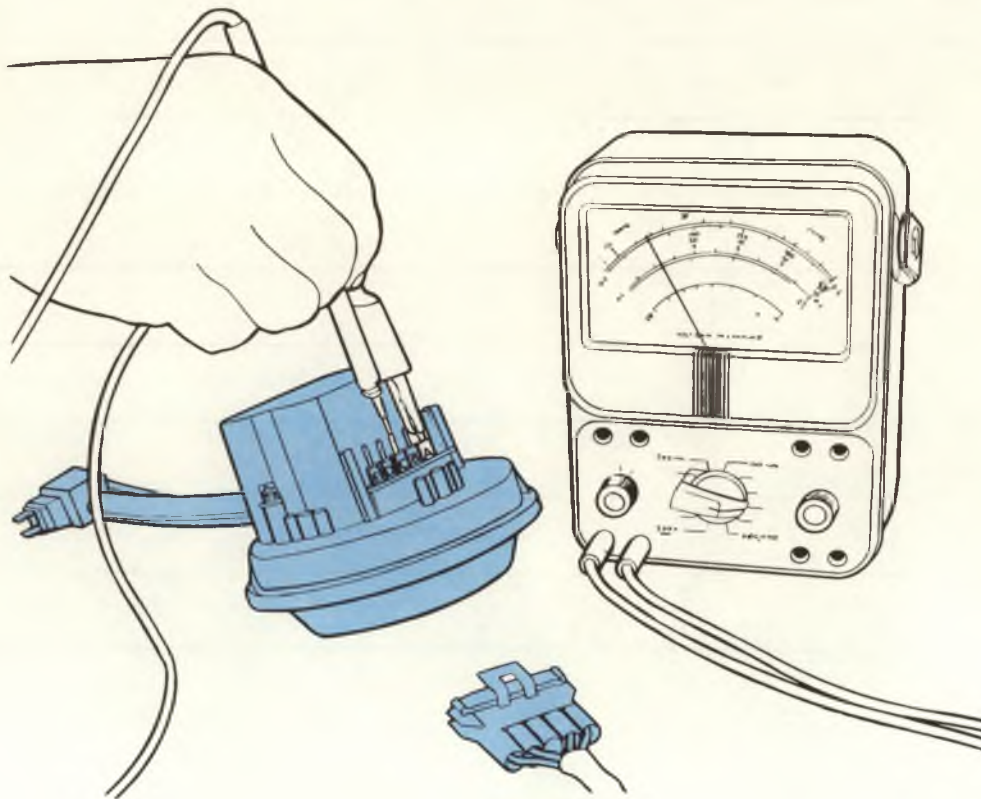

Figure 4-1, Servo Resistance Measurement.
- Servo resistance measurement (vent valve control or vacuum valve control) can be made at the servo as shown in figure 4-1.
- Step 5** Perform servo electrical tests described in figure 4-1.
**Step 2** Check the servo as per procedures described in figure 4-1, electrical check, page 4-2 . . . step 9, electrical vacuum check, above . . . and Table 4-1, Vacuum Servo Test, page 4-3. Replace the servo if required.